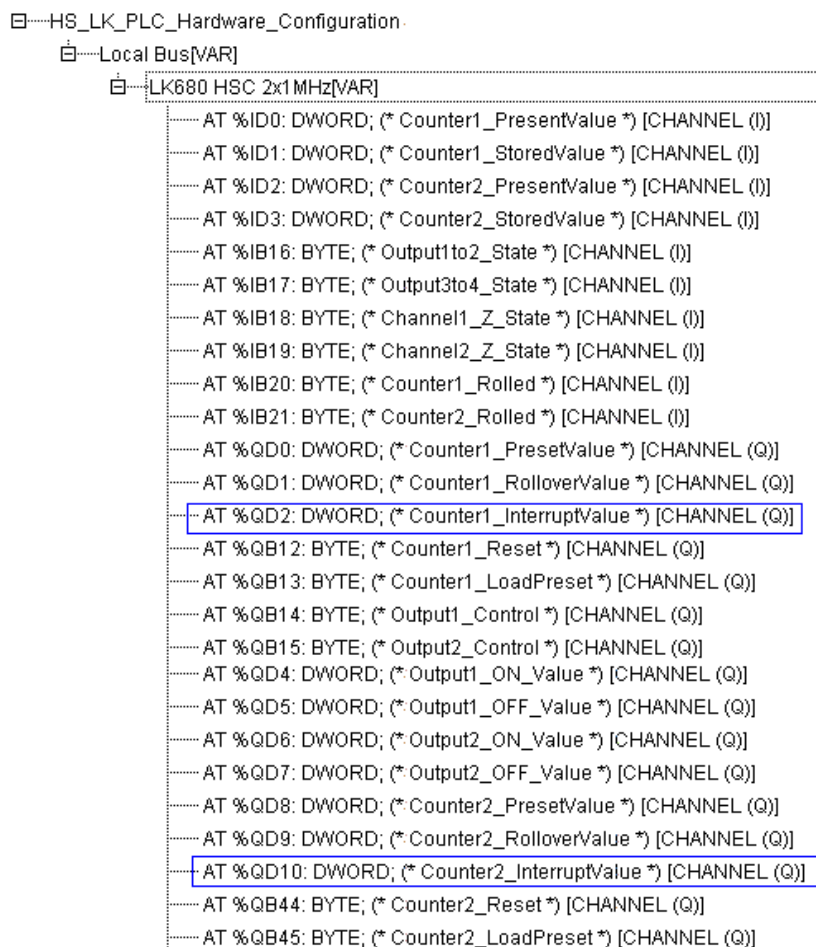

Figure 10.69: LK680 interrupt value settings
- As shown in Figure 10.69, after enabling the interrupt on match function, when the interrupt value of counter 1 “Counter1_InterruptValue” = 4000, the interrupt value of counter 2 “Counter2_InterruptValue” = 7000, and the current count = 4000, counter 1 will generate an interrupt pulse; and when the count = 7000, counter 2 will generate an interrupt pulse.